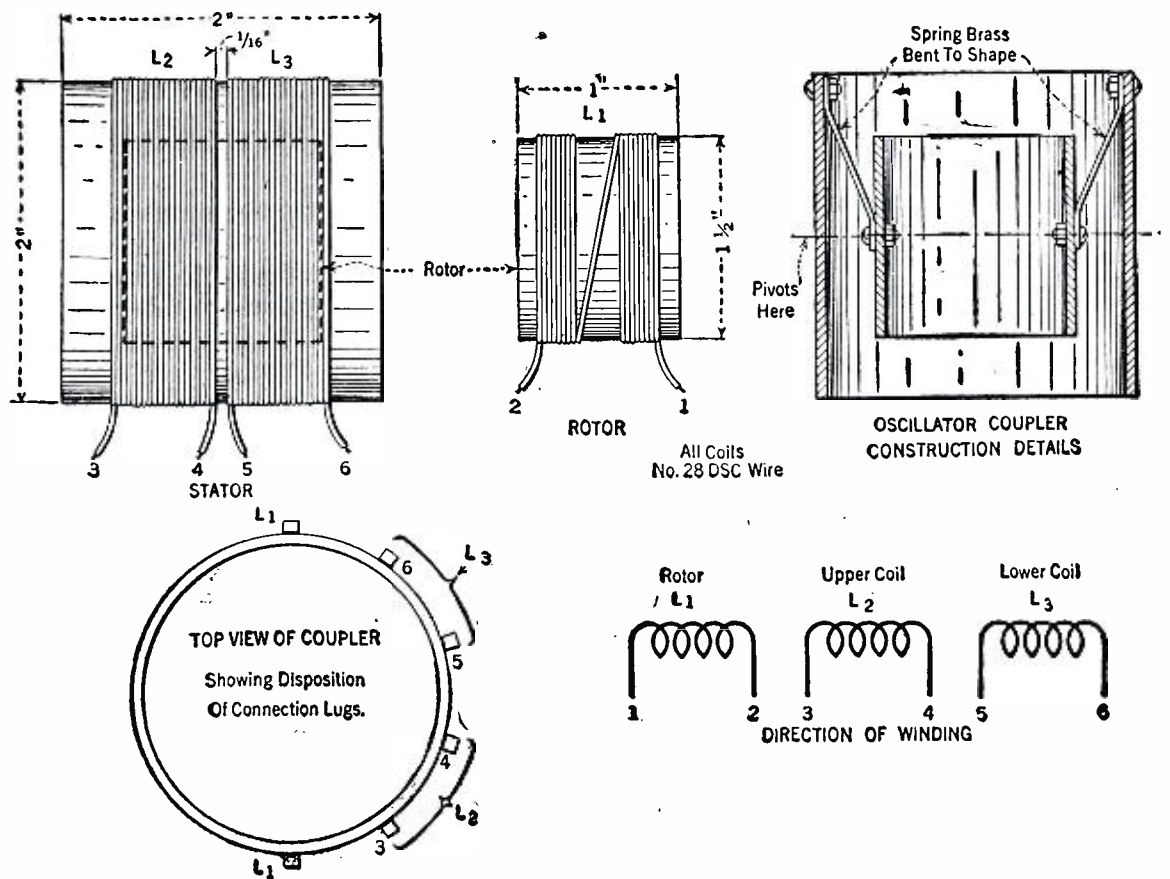

Fig. 12.—Details for construction of the oscillator coupler used in the super-autodyne receiver.
d.s.c. wire. The rotor coil also consists of twenty-eight turns of the same size wire on a 1½-inch tube rotatable within the stator tube. See Fig. 12.